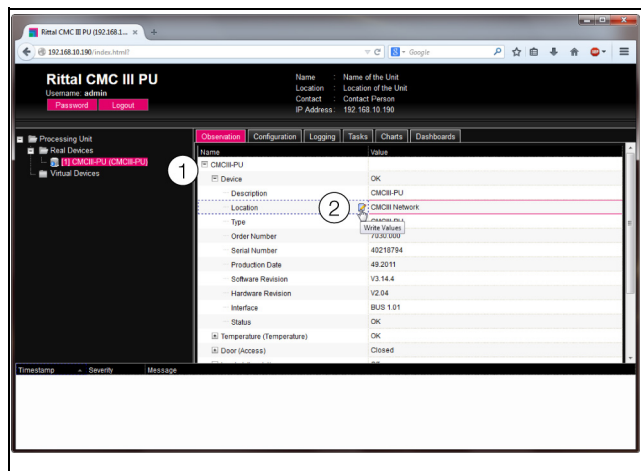

Fig. 33: Selection of a single parameter
- Expand successively the "CMCIII-PU" and "Device" entries by clicking the "plus" character in front of the entry (fig. 33, item 1).
- Place the mouse cursor at the end of the first column in the "Location" row (fig. 33, item 2).